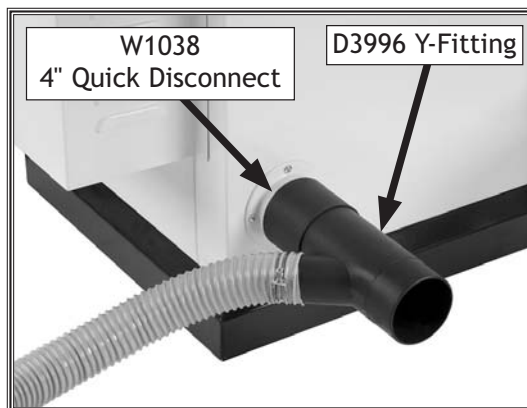

Figure 42. 4" dust port connected.
1. Secure a 4" dust hose to the dust port located under the saw table (Figure 42).
Note: For fast and easy connection to a dust collection system, we recommend using the Model W1038 4" Quick Disconnect fitting with the Model D3996 4" x 2½" Y-fitting, as shown in Figure 42.